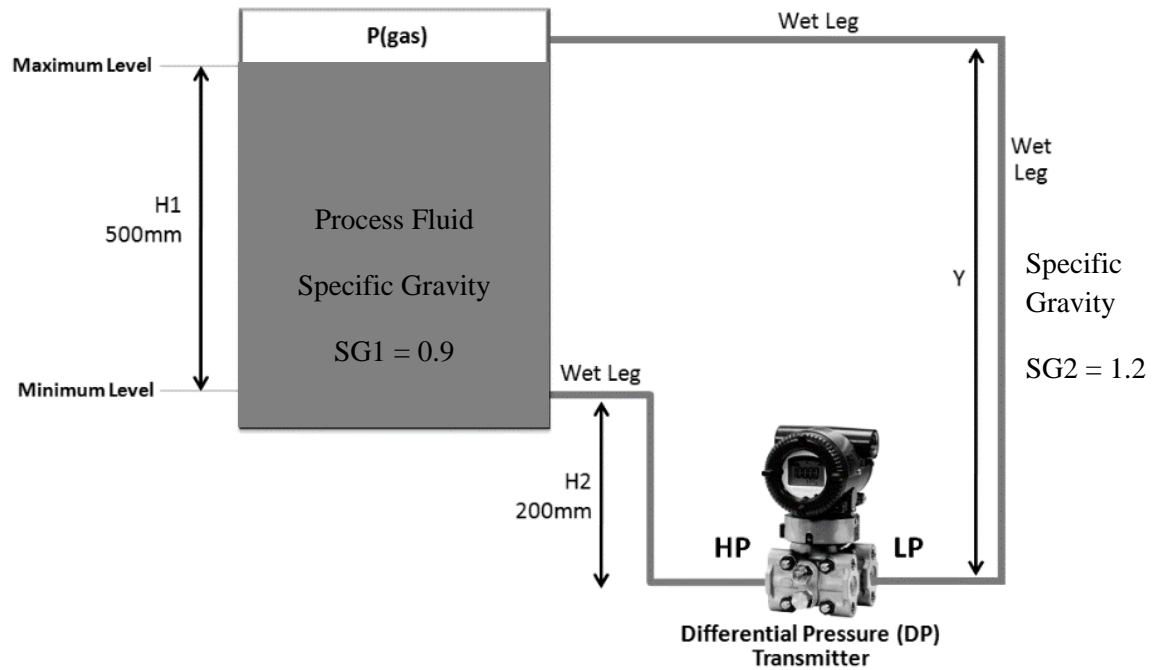

Figure 1 (c): Differential pressure transmitter
- (c) When installing a hydrostatic level transmitter on a working process, the lower and upper range values (LRV and URV) for the transmitter must be determined in order to properly register 0% at the LRV liquid level and 100% at the URV liquid level. Calculate the calibrated range of differential pressure (dp cell) transmitter in following Figure 1 (c).